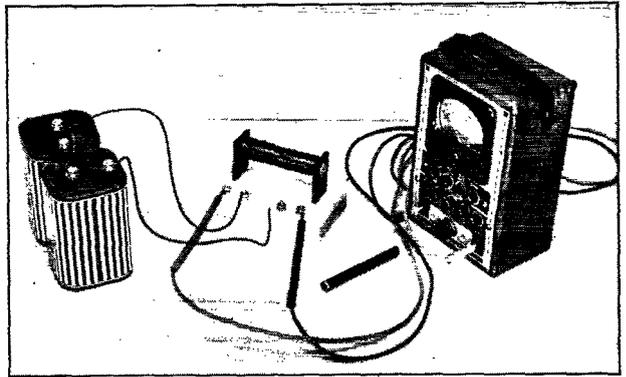

Fig. 3
**Apparatus:** This experiment requires the apparatus shown in Fig. 3. A homemade electromagnet having two windings is needed, arranged with a removable core. The core should be soft iron, cylindrical and about  $3\frac{1}{2}$  inches long. A suitable core can be made from a  $\frac{3}{8}$ -inch diameter bolt having an unthreaded section of the required length, by sawing off the head and threaded portion. Procure or make a cardboard tube of the same length as the core and having an inside diameter such that the core will fit in it fairly snugly, but loose enough so that the core can easily be slid in and out. Cut out pieces of thin wood or masonite and drill them to fit over the ends as mountings, as shown in Fig. 3. Then wind on about 100 feet of No. 28 enamelled wire, leaving ends for terminals, cover the winding with tape or paper, and put on a second winding of about 200 feet of wire of the same size. Wind both coils in the same direction (that is, same direction of rotation in winding; the layers can travel back and forth along the coil) and label the terminals so that the "start" and "finish" ends are readily identifiable. The wire should be wound fairly evenly, but perfect layers are not at all essential. Considerable time and effort can be saved by using a hand drill for the winding, mounting the drill in a vise and running a bolt of appropriate size through the cardboard tube and into the chuck so that